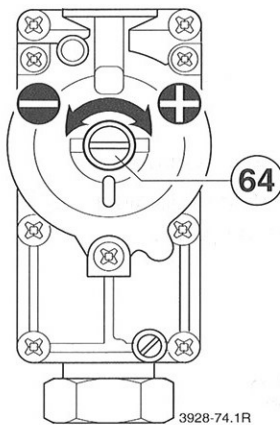

Fig. 42
- ▶ Adjust the gas flow restrictor (63) to obtain the CO2 level given in Table 15. Refer to fig. 42.
- ▶ Remove the seal from the gas valve adjusting screw (64) and adjust the CO2 level to the figure given in Table 15 for min. rated heat output. Refer to fig. 42.